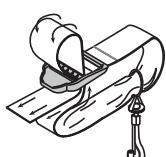

Fig. 2
2. Pull the strap over the cross bar and down through the slot in the buckle (Fig. 2).